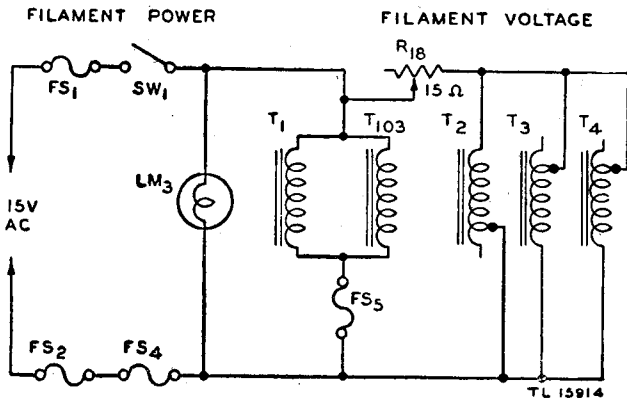

Figure 66. FILAMENT POWER switch—functional diagram.
a. **FILAMENT POWER SWITCH SW1** (fig. 66). **FILAMENT POWER** switch SW1 is located on the front panel of the transmitter. When set to ON, it applies a-c power to the primary windings of transformers T1, T2, T3, T4, and T103. Transformer T103
e. FIL. VOLTAGE METER  $M_3$  (fig. 66). Filament voltage meter  $M_3$  is a 0- to 10-volt a-c voltmeter